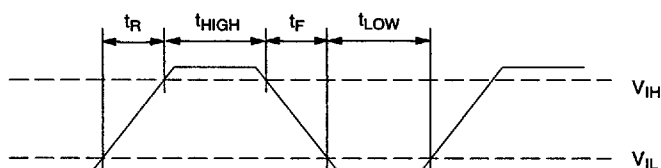

Fig. 4-19: 5 MHz clock input
4.6.7. 5 MHz Clock Input (see Fig. 4-19)